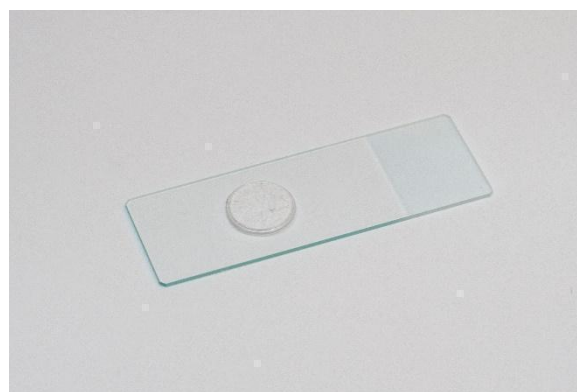

Figure 10. Fix the Gelacell™ discs using mounting media for imaging.
4. **Handling:** Employ fine-point tweezers, either straight or angled, to grip the discs (refer to Figure 1). Position the discs facing the scaffolds on a glass slide that contains one or two drops of mounting media. This step is crucial to secure the discs in place. (Figure 10).